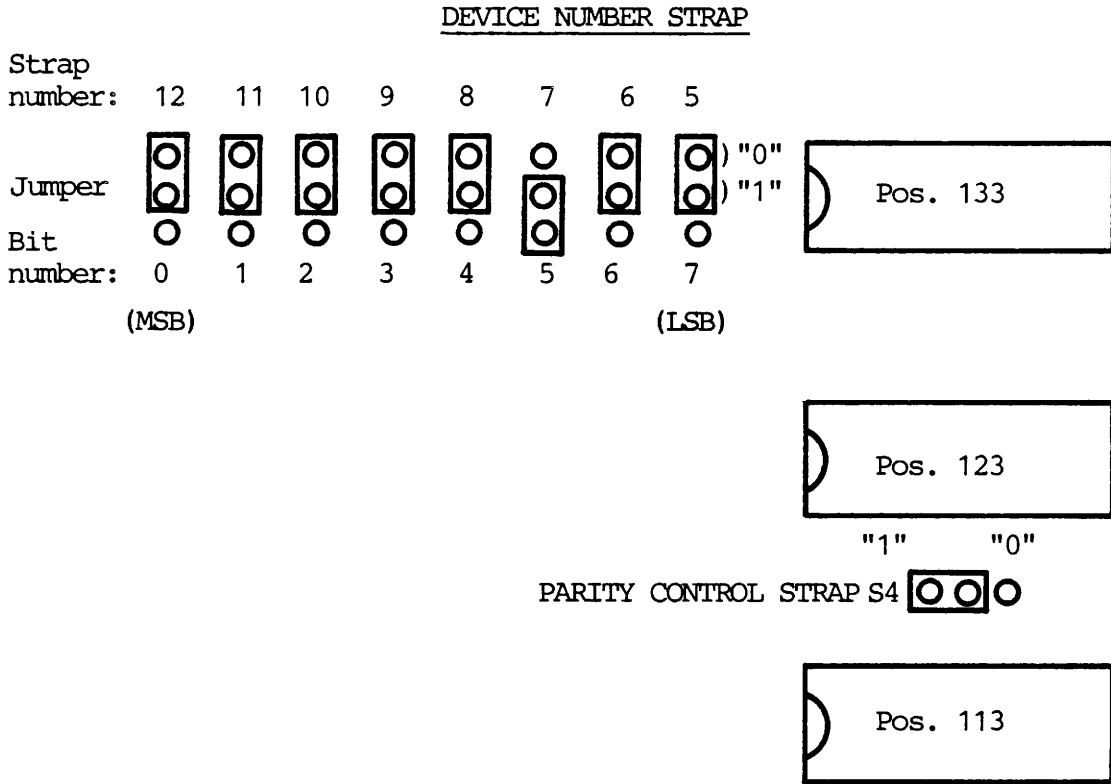

Fig. 1.4.4
The 8 device number straps are located in position 134, and the parity control strap is located between pos. 113 and 123. The straps are shown below in fig. 1.4.4.
The device number is set by means of jumpers placed in either the "0" or "1" positions. The parity of the device number straps and the parity control strap must always be even. In fig. 1.4.4 the main device number is 8_{10} , which gives parity control strap = "1".